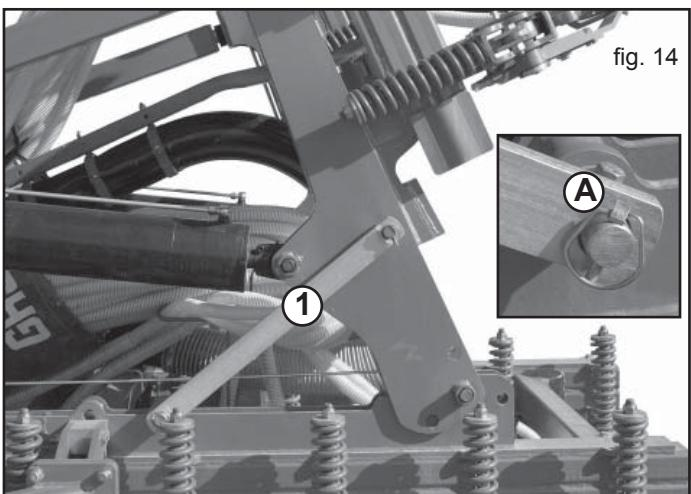
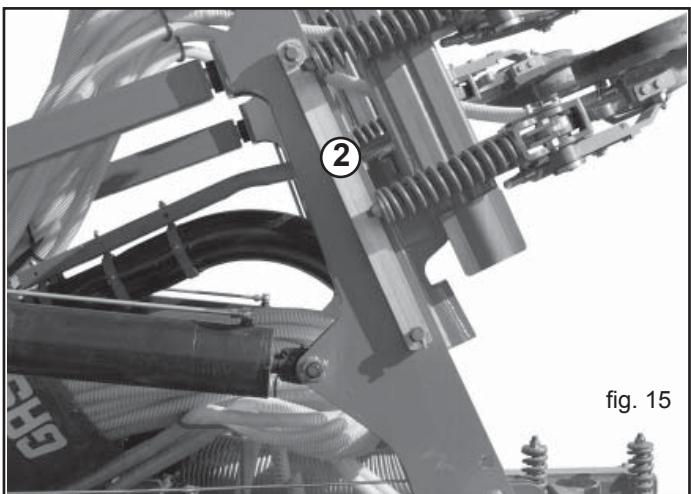

fig. 14
fig. 15
- Remove the safety pin (A, Fig. 14);
- Remove the safety device of the side toolbars (1, Fig. 14), and place it along the side toolbar as shown in Figure 15 (2);
- Lock the side toolbars with the locking bar (1, Fig. 14) locking it with the safety devices provided (A, Fig. 14).